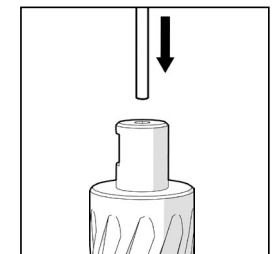

Fig. 6
- Insert the pilot pin into the cutter ensuring that it slides smoothly. (Fig.6)